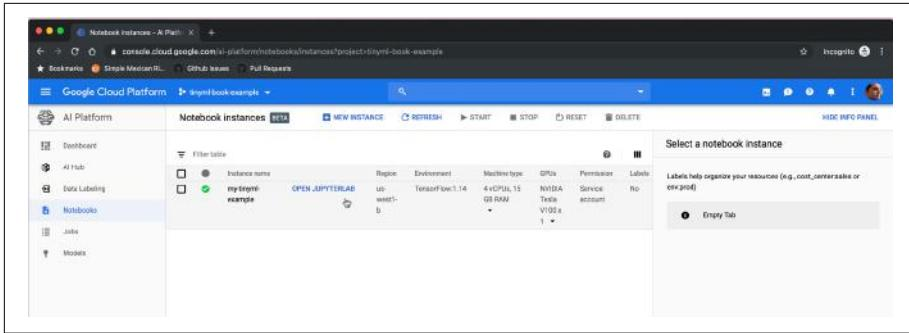

Figure 10-9. The instances screen
- When you've set all those options, at the bottom of the page, click the CREATE button, which should return you to the "Notebook instances" screen. There should be a new instance in the list with the name you gave to your machine. There will be spinners next to it for a few minutes while the instance is being set up. When that's complete click the OPEN JUPYTERLAB link, as depicted in Figure 10-9.